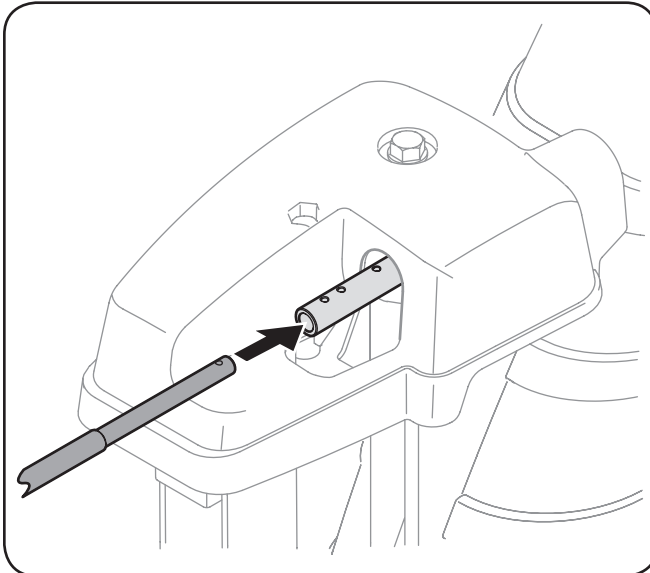

Figure 3-4
2. Insert the round end of the chute control rod into the chute control assembly. Push rod as far into chute control assembly as possible, keeping the holes in the rod pointing upward. See Figure 3-4.